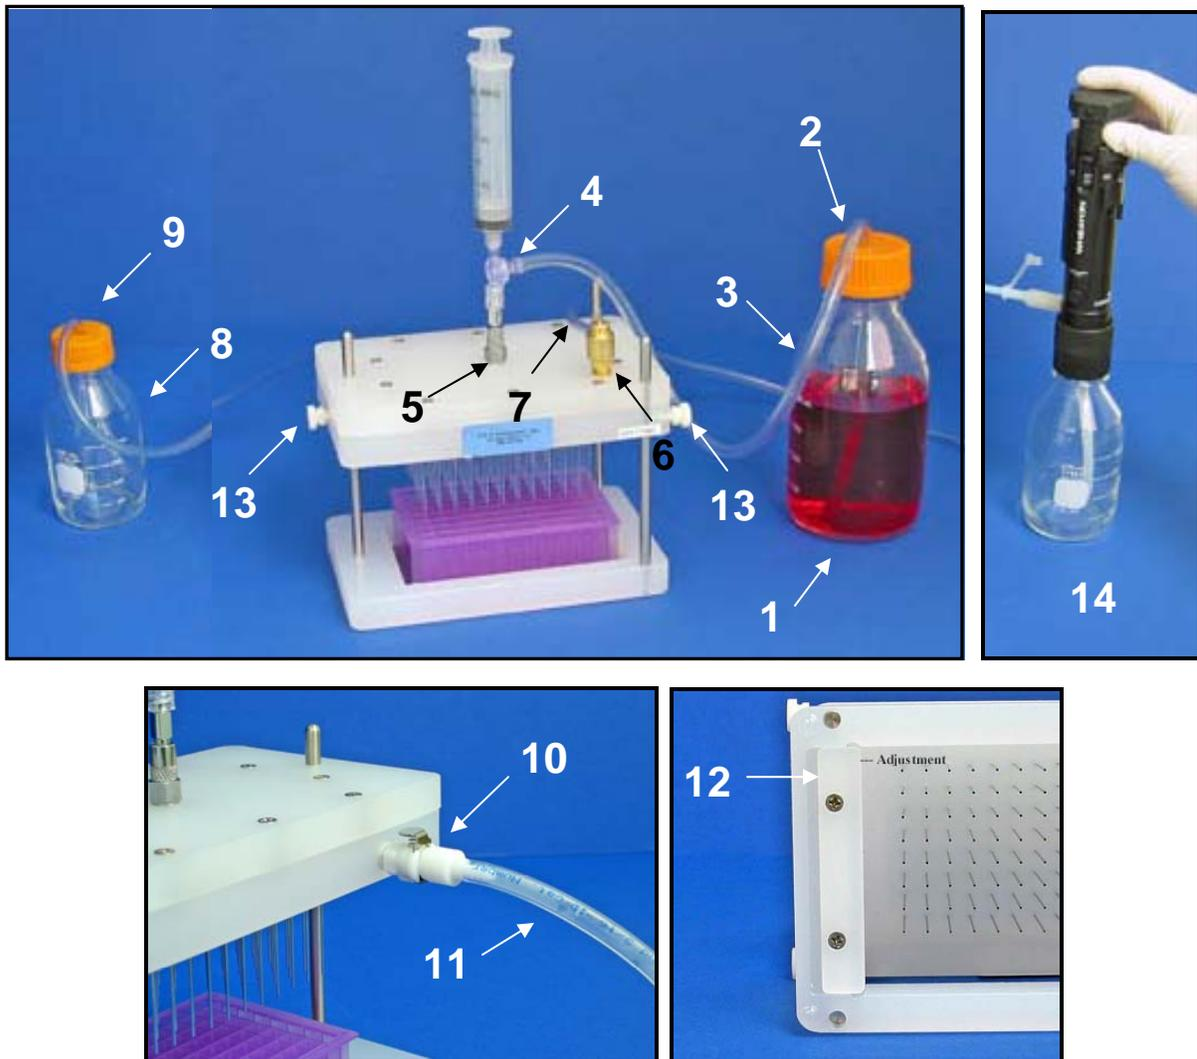

Figure 1. Parts of the VP 177AD Aspiration and Dispensing Manifold
1. Connect the vacuum source through the Quick Connect Fitting (10) on the Manifold (Figures 1 and 3).
1. Position a tip lid box under the Dispense Tubes. Insert Bleed Tube (7) in Liquid Collection Bottle (8) and remove the Source Tube (3) from liquid.
2. While depressing the Bleed Valve (6), use the Syringe or Bottle Top Dispenser to pump air into the system until the Bleed Tube (7) is clear of liquid.
3. Connect the vacuum source through the Quick Connect Fitting (10) on the Manifold (Figures 1 and 3).